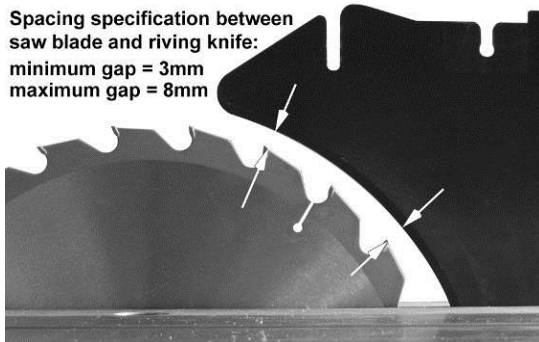

Figure 26
The gap between saw blade and riving knife must be between 3 and 8mm (Figure 26).
9. Slide the bracket (C) toward or away from the saw blade as required.
10. Tighten the socket head button screws (E).
11. Reinsert riving knife; tighten lock lever (A) and check that saw blade/knife gap is between 3-8mm (Figure 26).